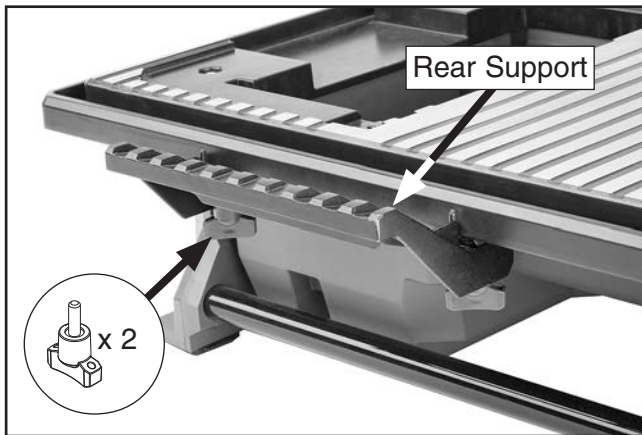

Figure 6. Rear support installed.
1. Attach rear support to back of saw with (2) pre-installed wing knob bolts (see **Figure 6**).